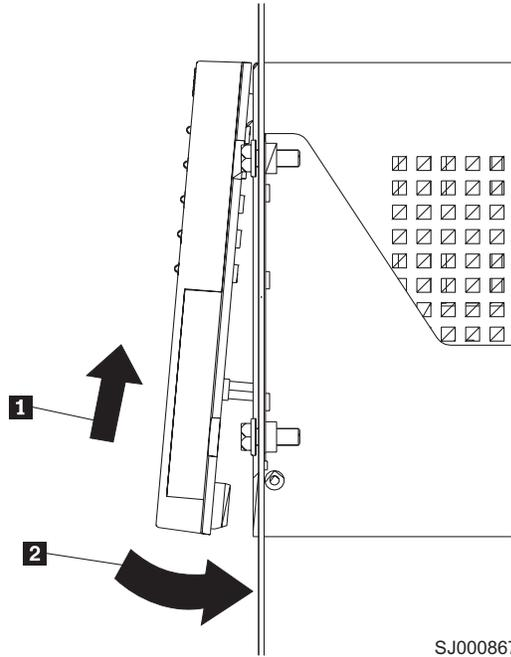

Figure 17. Replacing the controller-unit bezel (machine types 3552 [FAStT500] and 1742 [DS4400 and DS4500])
4. To replace the bezel, slide the top edge under the lip on the chassis **1**. Then push the bezel bottom until the pins snap into the mounting holes **2**, as shown in Figure 17.